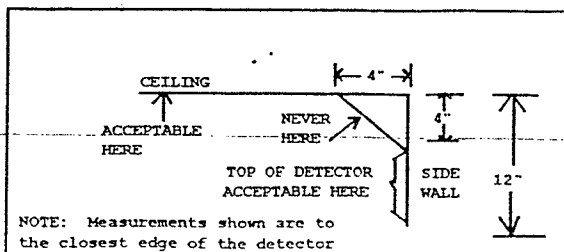

Figure 5
- The 4 inch "Dead Air" space where the ceiling meets the wall, as shown in Figure 5